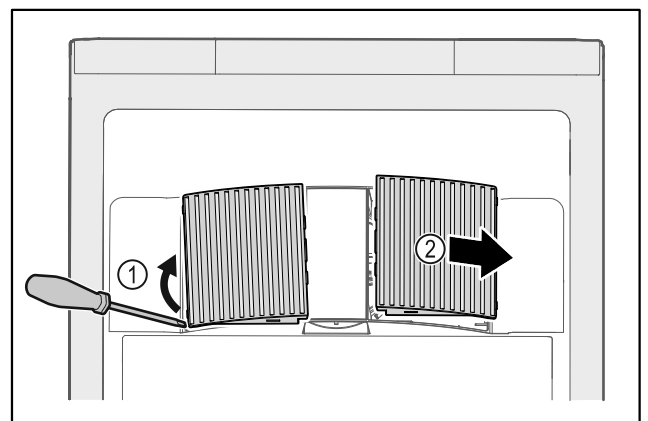

Fig. 59
- ▶ Carefully lever out fan covers from the side Fig. 59 (1) and remove towards the front Fig. 59 (2).